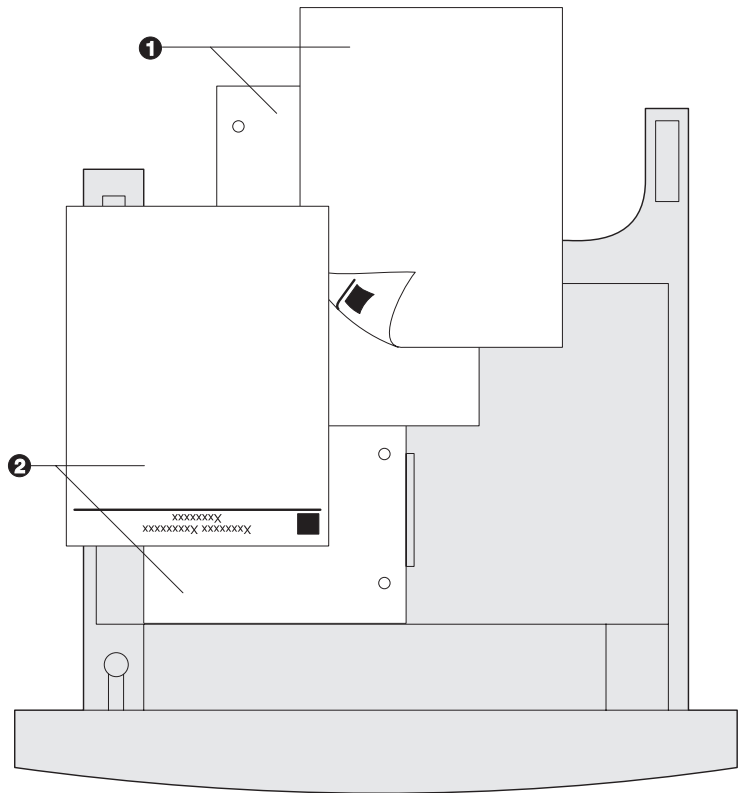

Figure 2.2 Trays 1/2/3 paper orientation (short edge feed)
- 5** Place the paper in the tray, between the guides (see Figure 2.1 on page 2-12 and Figure 2.2 on page 2-13 for orientation).